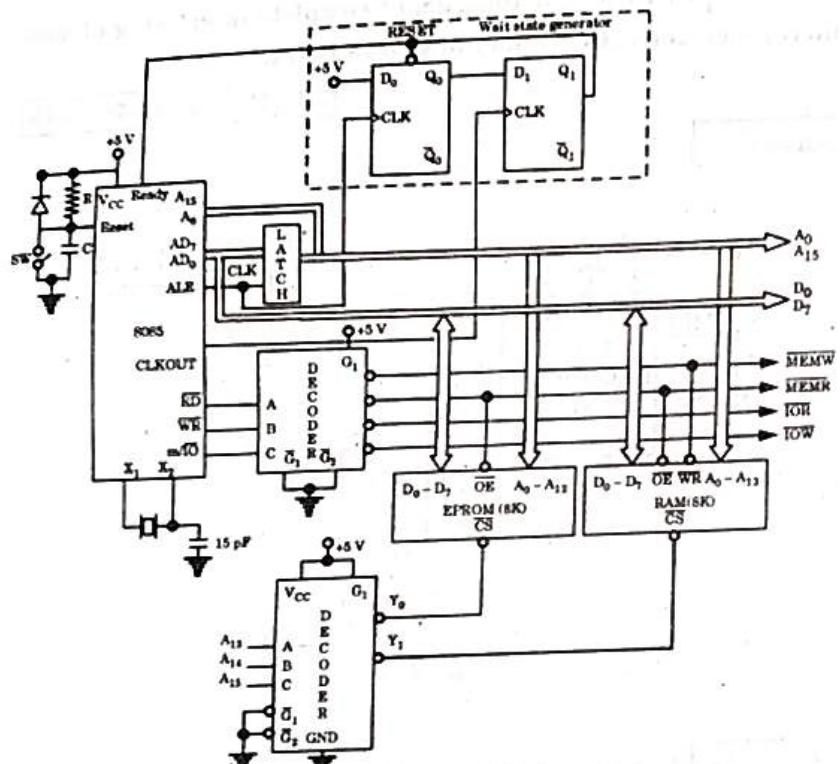

Fig. 1.22.1.
1. Fig. 1.22.1 shows the desired memory system using IC 2764 (8K) EPROM and 6264 (8K) SRAM memory requires 13 address lines ($A_0 - A_{12}$) since $2^{13} = 8\text{K}$.